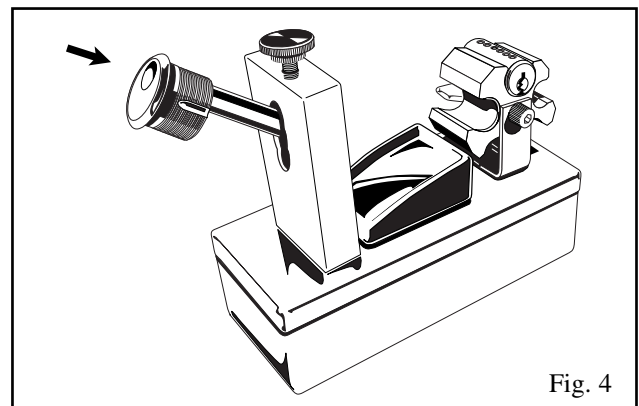

Fig. 4
4. Position cylinder housing onto the end of the translucent follower as shown in Fig. 4.